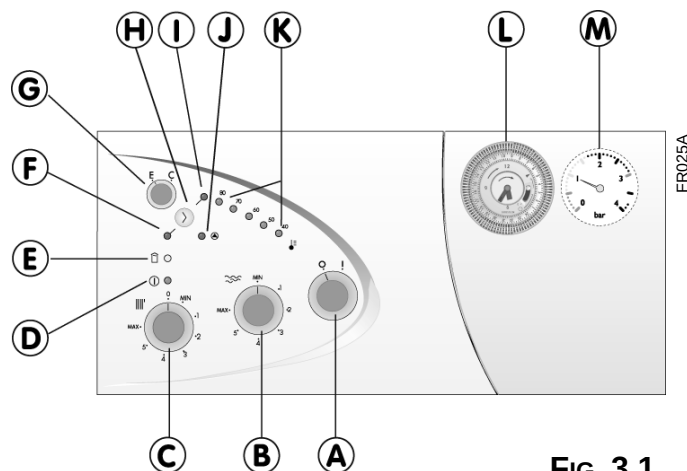

FIG. 3.1
- Supply power to the boiler by turning the On/Off switch "A" (see **FIG.3.1**)